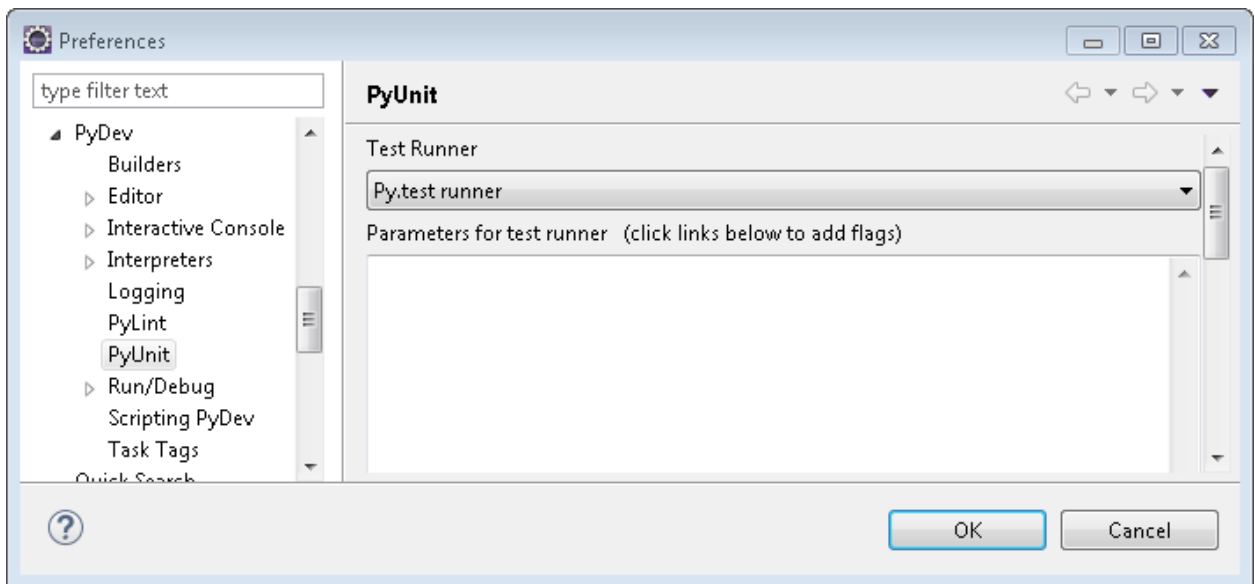
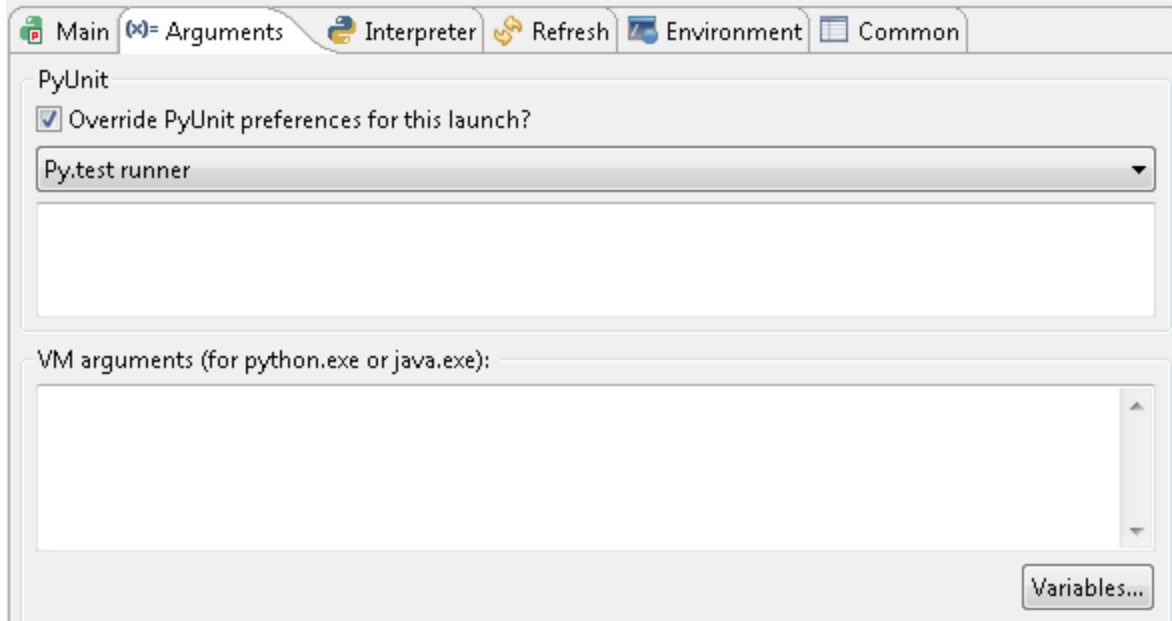

Figure 39: Global PyUnit test configuration
Figure 40: Run Configuration for individual tests
Note: When configuring the PyUnit Test Runner in Eclipse, an optional parameter called verbosity is included by default. This parameter must be removed. Figure 39 and Figure 40.
5. The console window will open and run the tests. The test output from a successful run will be similar to Figure 39.